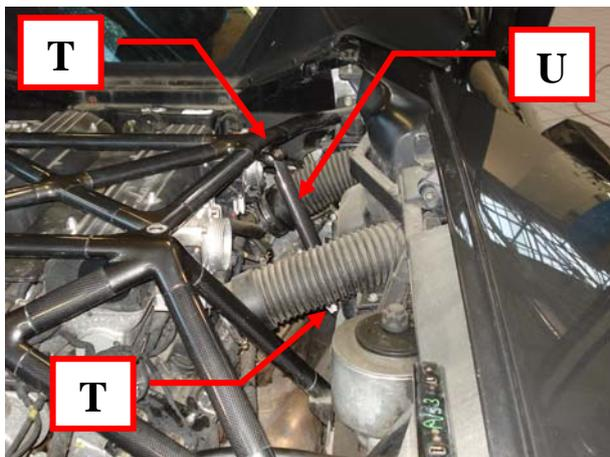

Fig. 15
- Tighten the two screws (**T-Fig. 15**) that attach the right arm to the chassis (**U-Fig. 15**).